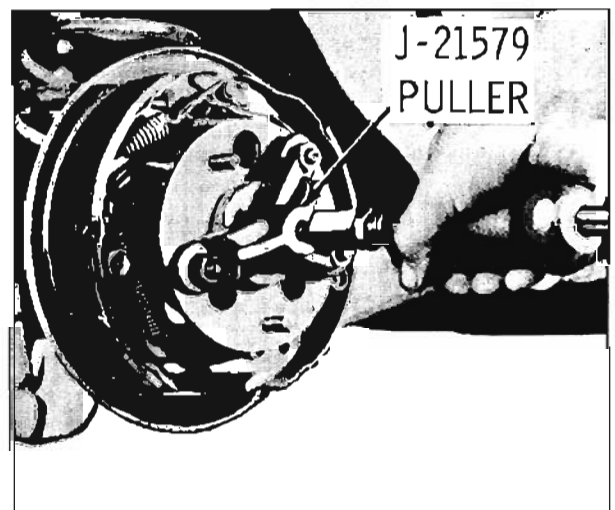

Fig. 10-103 Removing Axle Shaft
4. Pull out axle shaft assemblies using Puller J-21579 with a slide hammer. (Fig. 10-103)